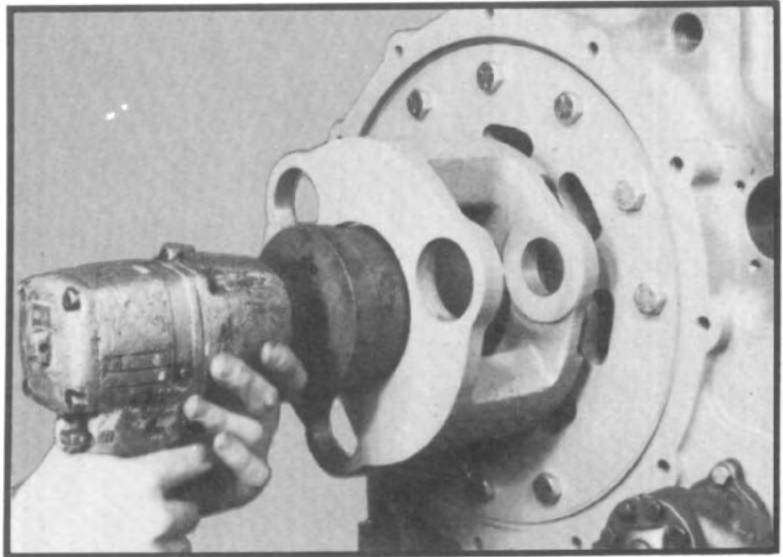

Fig. 66
- 3.13 Remove special nut from inside of planet carrier with a special wrench (See tool reference, Section X and fig. 66.)